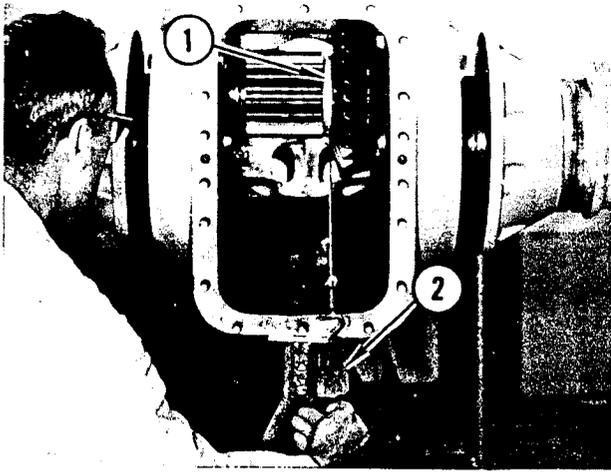

FIGURE 99. CHECKING ROLLING TORQUE
4. Install bearing cages with all the shims from both cages on the R. H. bearing cage. Tighten bearing cage capscrews to 190 ft. lbs. of torque. Refer to Figure 99. Wrap sash cord